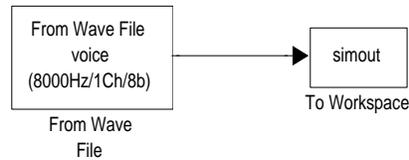

Figure C.10: Test model for Simulink audio.
To make sure we can process audio signals, create the test model shown in figure C.10. To do this, in a new model window with the simulation parameters set as explained in “Simulation Parameters” on page 462, create an instance of the block called `From Wave File`. This block can be found in the library browser under `DSP Blockset` and `DSP Sources`. Set the parameters of that block to
Connect the blocks as shown in figure C.10.
2. Implement in Simulink the comb filter from part (a). Provide as input the file `voice.wav` (see page 462). Send the output to the workspace, just like figure C.10, so that you can use `soundsc` to listen to the result. You will probably need the Gain and Sum blocks, which you can find in the Simulink, Math library. The delay in the feedback path can be implemented by the Integer Delay block, which you can find in the DSP Blockset, General DSP, Signal Operations library.